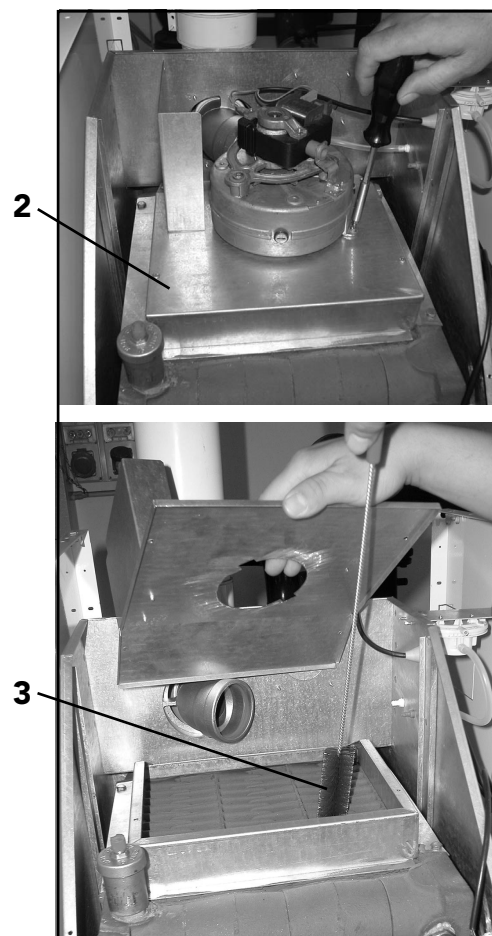

fig. 11
**To properly clean the boiler (fig. 11):**